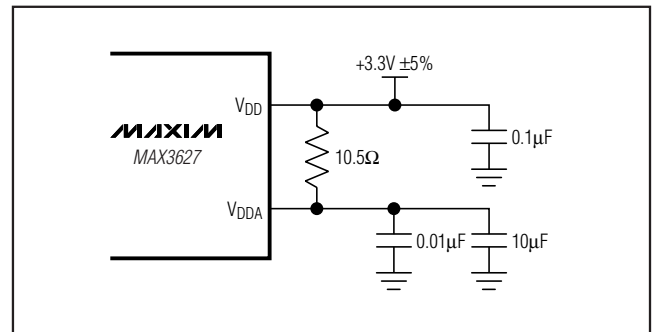

Figure 4. Analog Supply Filtering
- Note 1:** A series resistor of up to  $10.5\Omega$  is allowed between  $V_{DD}$  and  $V_{DDA}$  for filtering supply noise when system power-supply tolerance is  $V_{DD} = 3.3V \pm 5\%$ . See Figure 4.
The MAX3627 is a mixed analog/digital IC. The PLL contains analog circuitry susceptible to random noise. To take full advantage of on-board filtering and noise attenuation, in addition to excellent on-chip power-supply rejection, this part provides a separate power-supply pin, VDDA, for the VCO circuitry. The purpose of this design technique is to ensure clean input power supply to the VCO circuitry and to improve the overall immunity to power-supply noise. Figure 4 illustrates the recommended power-supply filter network for VDDA. This network requires that the power supply is +3.3V ±5%. Decoupling capacitors should be used on all other supply pins and placed as close as possible to the pins for best performance.